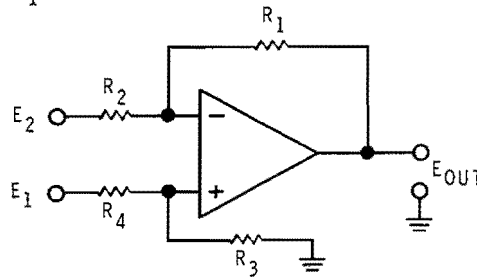

Figure 3-74
57. (attenuates) The circuit shown in Figure 3-74 is called a \_\_\_\_\_ amplifier.